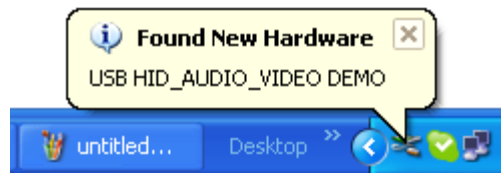

Figure L-2. Find New Hardware Callout
1. Plug USB Composite device in to the PC (host). As soon as you turn on the device, it is recognized by the host and is installed automatically. You must see the callout as shown in Figure L-2 on the right bottom corner of your screen.